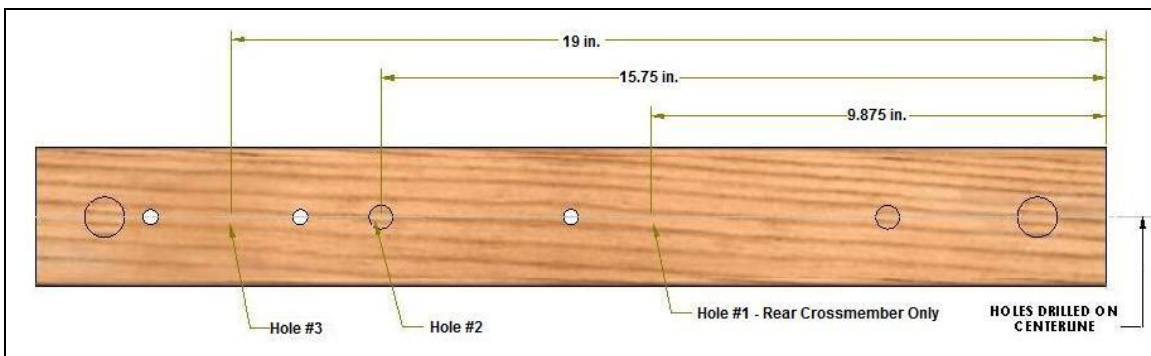

Figure 3 – Placement of Drilled Holes
3) **Drill Instructions/Hole Orientation** (see Figure 3)